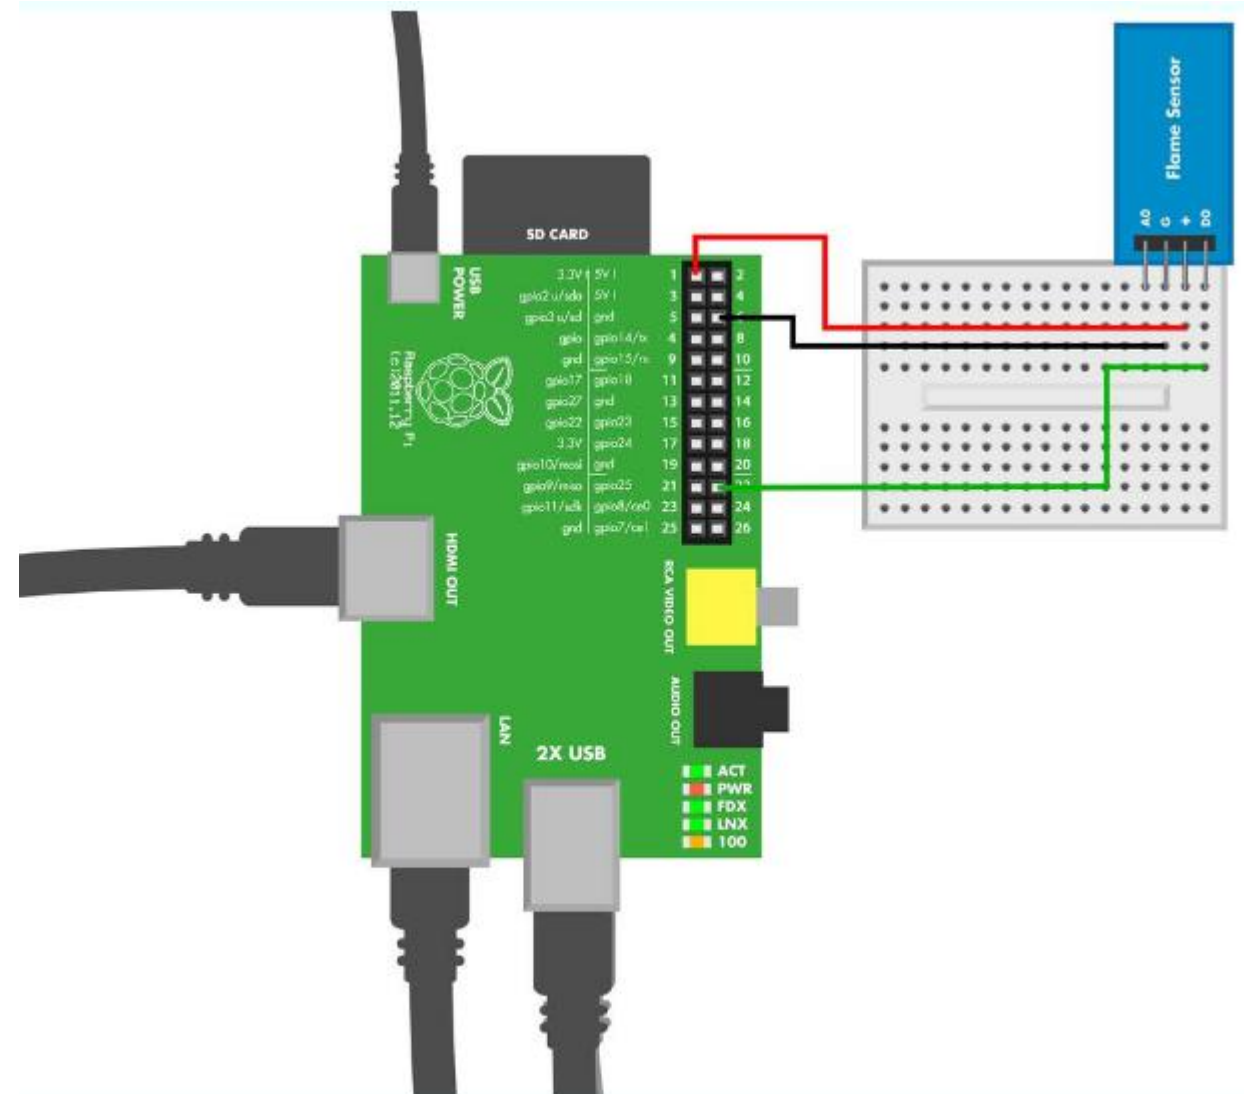

Figure 7-4. Flame circuit for Raspberry Pi
- Figure 7-4 shows the circuit for connecting the sensor to a Raspberry Pi.